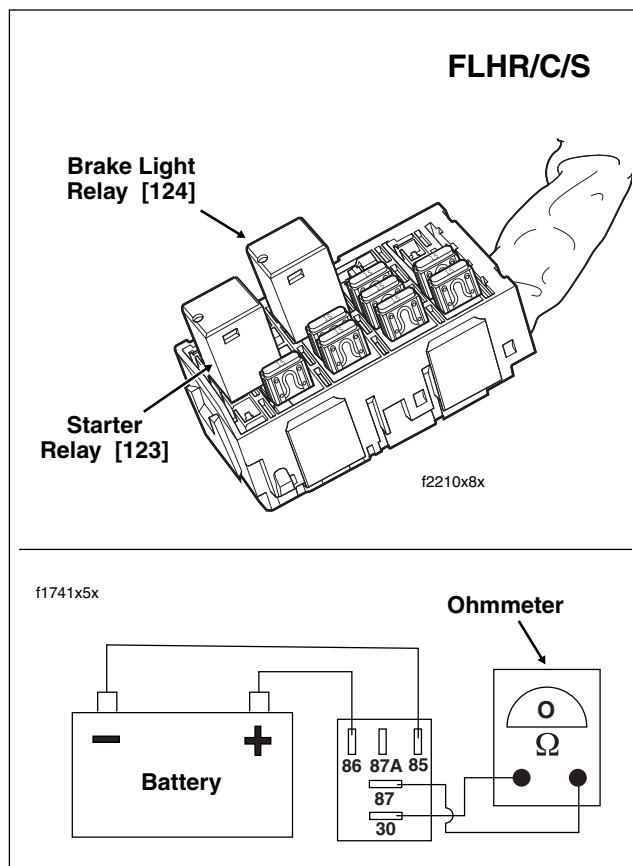
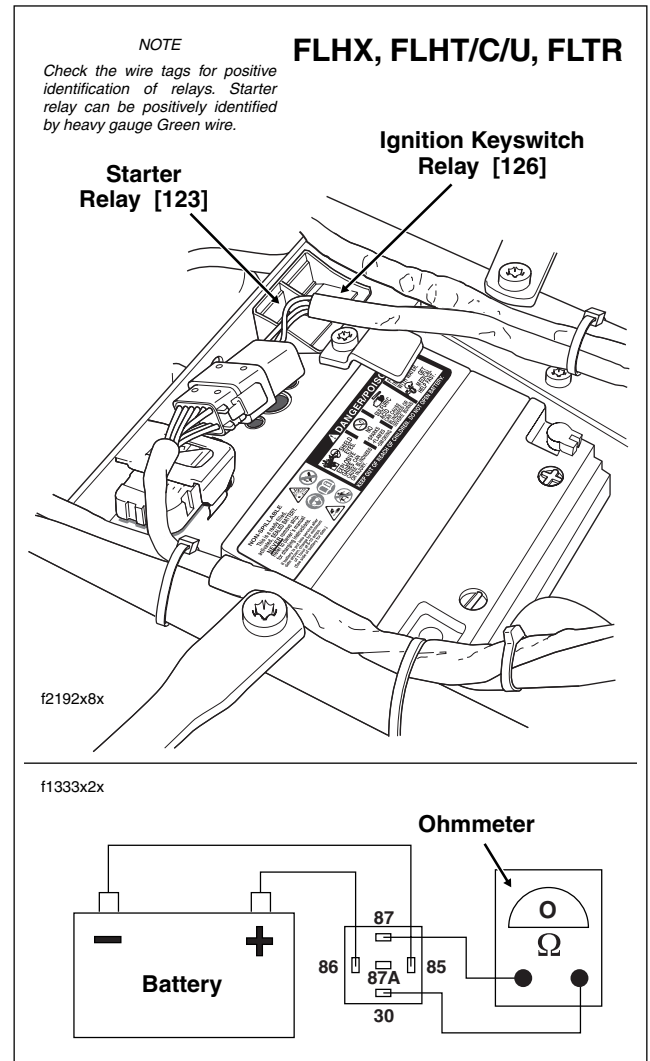

Figure 1-2. Locate Relay Under Left Side Cover
Figure 1-3. Locate Relay Under Seat
1. Remove relay. For FLHR/C/S models, see upper frame of Figure 1-2. For all other models, see upper frame of Figure 1-3.
2. To energize the relay, connect the battery leads to terminals 86 and 85. For FLHR/C/S models, see lower frame of Figure 1-2. For all other models, see lower frame of Figure 1-3.